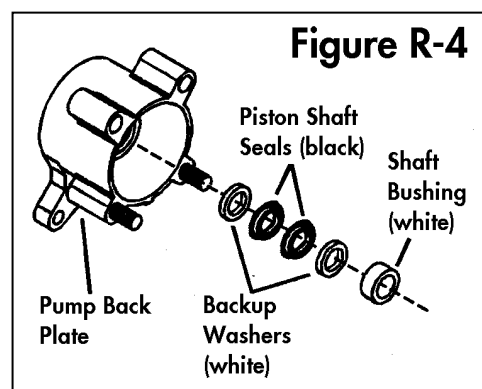

Figure R-4
7. From the side of the pump back plate that contained the large O-ring, insert a round drift of slightly smaller diameter than the hole for the piston shaft. (Note: a small socket on an extension or a wooden dowel makes a suitable drift). Tap the drift with a mallet to drive the two backup washers, two piston shaft seals and the piston shaft bushing out of the pump back body. See **Figure R-4**.
4. Refer to **Figure R-4**. Slide one of the white backup washers over the piston shaft and press it into its bore in the pump back plate. Next, slide one of the two black rubber piston shaft seals over the piston shaft and work it into the bore on top of the backup washer. Note that the shaft seals are flared out on one side. It is important that the flared (wider) side should be down, facing the shaft bore. Install the second piston shaft seal in the same way. It too should be installed with its flared side facing down. Next, install the second white backup washer and, finally, the white bushing. Slide the installation tool (used in Step 2 above) over the piston shaft with the narrow end facing the white bushing. Use the installation tool to press the shaft washers, seals and bushing all the way into the bore. When finished, the outside end of the bushing should be flush with the bore opening.